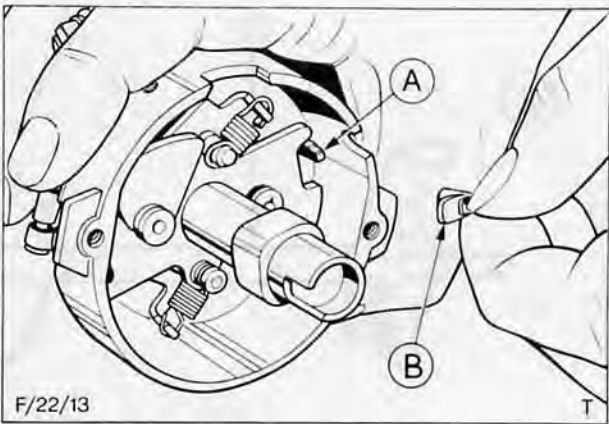

Fig. 47. Governor weight and bump stop location
- 15. Replace plastic bump stop, Fig. 47.